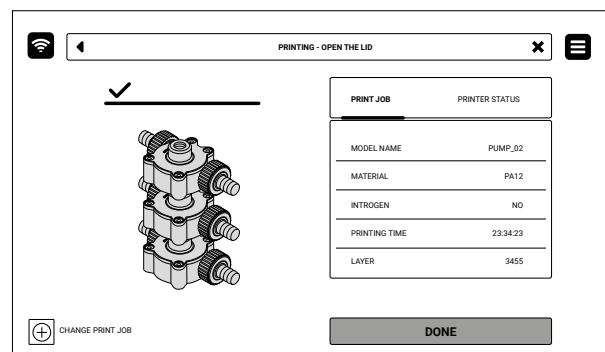

Fig. 6.2. **PRINT JOB** and **PRINTER STATUS** screen.
11. Press **DONE** (fig. 6.2).